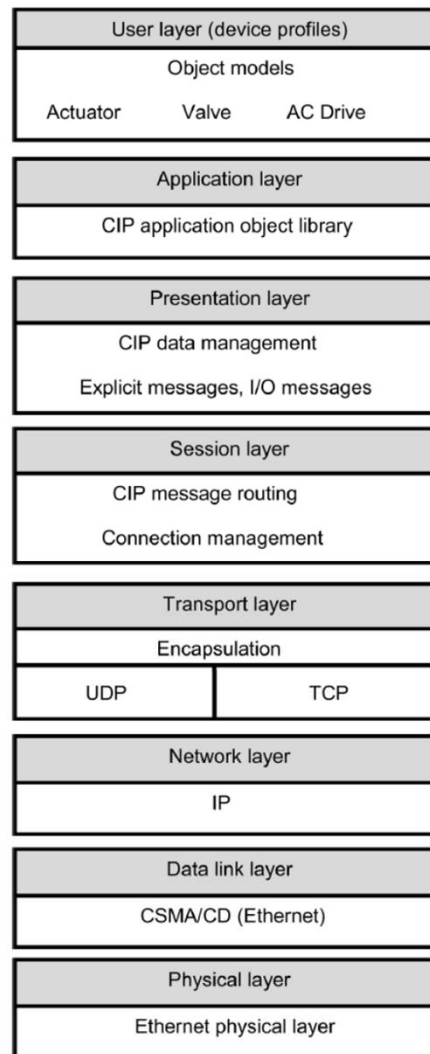

Figure 1-7. A typical EtherNet/IP architecture
- EtherNet/IP provides control, configuration, and data exchange capabilities on an Ethernet network. A typical EtherNet/IP architecture is shown in Figure 1-7.